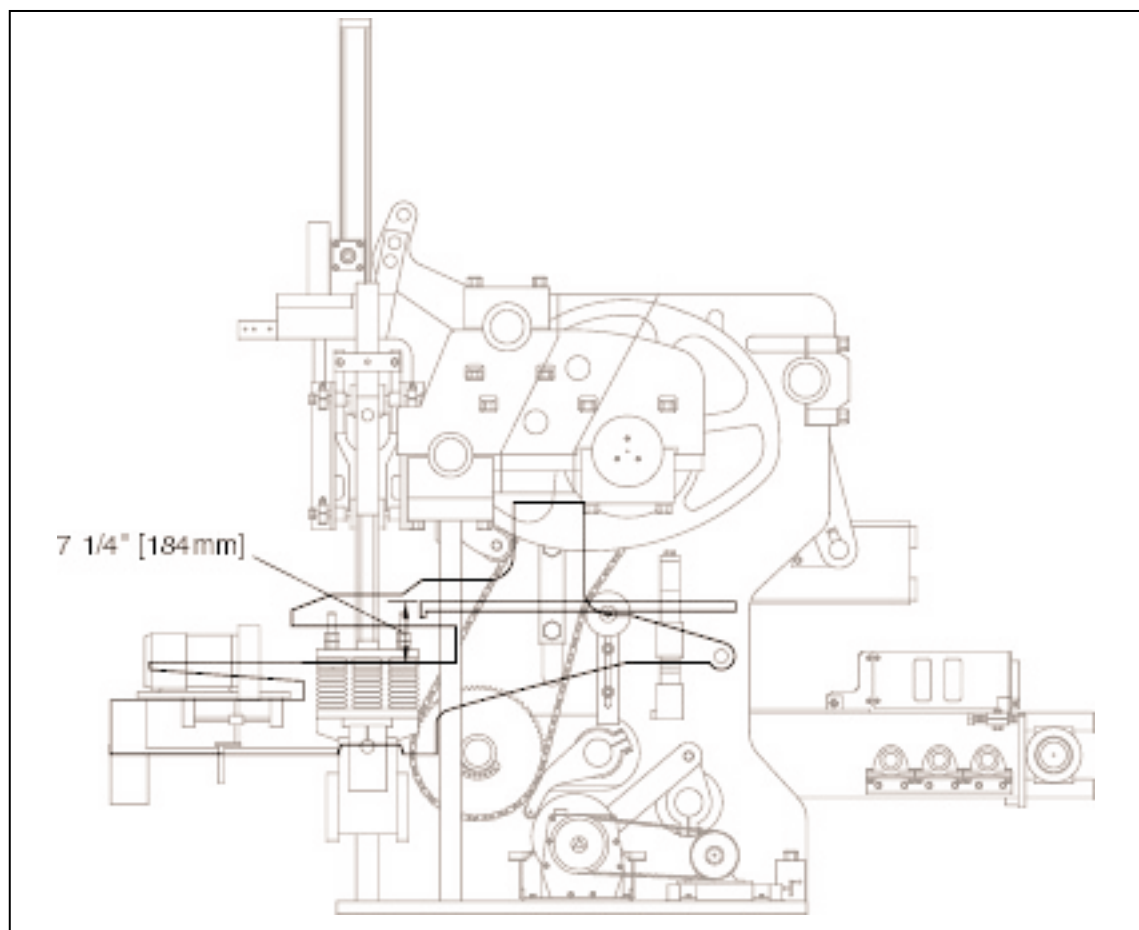

Figure 4.27 APRON PLATE ABOVE MOLD THROAT ADJUSTMENT.
4.2.4 Reconnect autofeed linkage and adjust so that the top of the apron plate is **7.25" [184 mm]** above the mold throat at the lowest position of the autofeed (see figure 4.27). To adjust, lower or raise the autofeed until apron plate is in correct position.